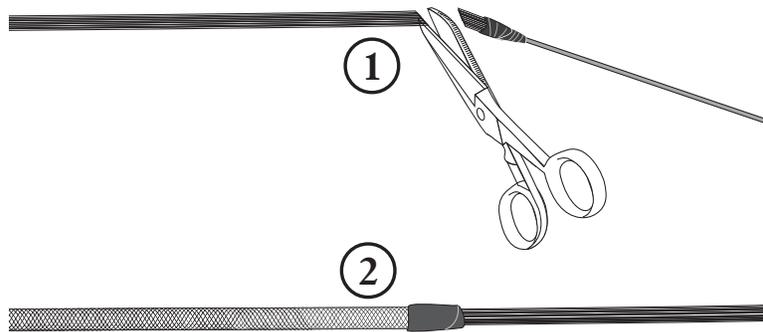

Figure 12
**Step 8:** Remove plastic rod (Figure 12) and reuse, if necessary.